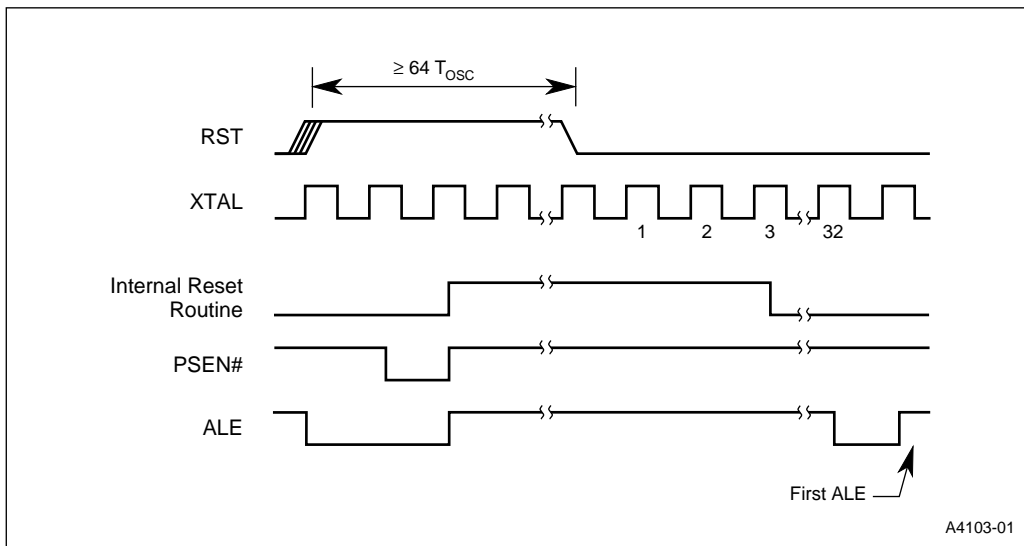

Figure 13-5. Reset Timing Sequence
The CPU checks for the presence of the combined reset signal every $2T_{OSC}$. When a reset is detected, the CPU responds by triggering the internal reset routine. The reset routine loads the SFR's with their reset values (see Table 3-4). Reset does not affect on-chip data RAM or the register file. (However following a cold start reset, these are indeterminate because V_{CC} has fallen too low or has been off.) Following a synchronizing operation and the configuration fetch, the CPU vectors to address FF:0000. Figure 13-5 shows the reset timing sequence.
1. Assert RST to initiate a device reset. See section 13.4.1, “Externally Initiated Resets” and the reset waveforms in Figure 13-5.